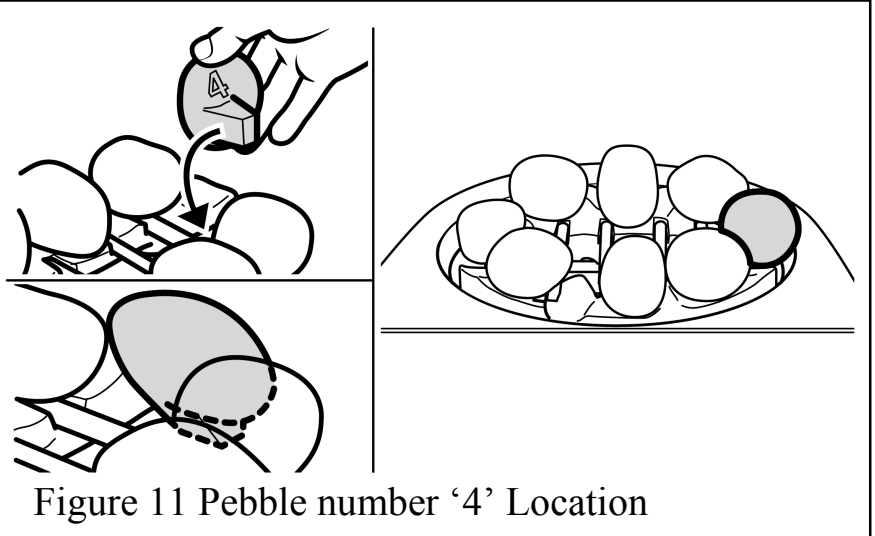

Figure 11 Pebble number '4' Location
8. Pebble '4' has a location peg on the underside. The peg has a chamfer on one side. The chamfer must face the burner. Locate pebble '4' onto the right hand side of the pebble base. It should bridge the gap between the front and rear halves of the pebble base. Pebble '4' should not touch the burner cover (See figure 11).